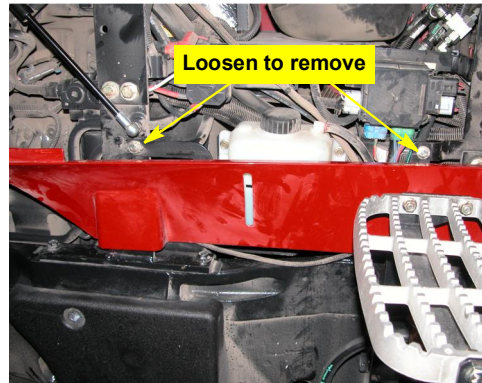

Figure 2a: Removing the side shield
a. Remove the side shield for better working access for the hydraulic installation (Figure 2a).